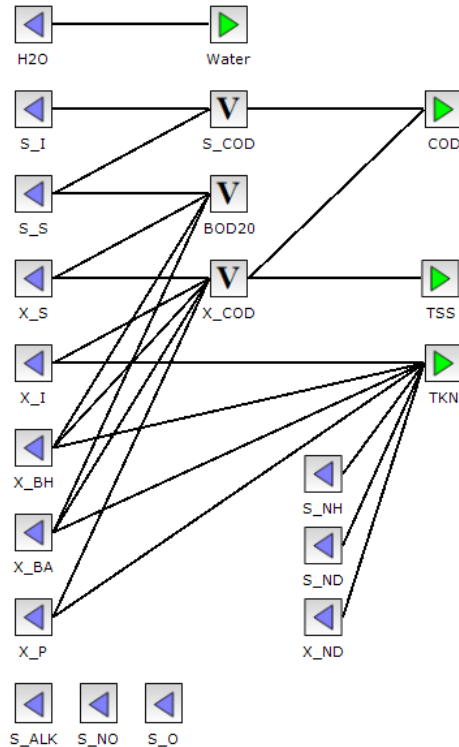

Figure 3.5 Default ASM1 de-fractionation layout
- **Defractionation:** load the WEST.ASM1.Output.Layout.xml fractionation layout (Figure 3.5)